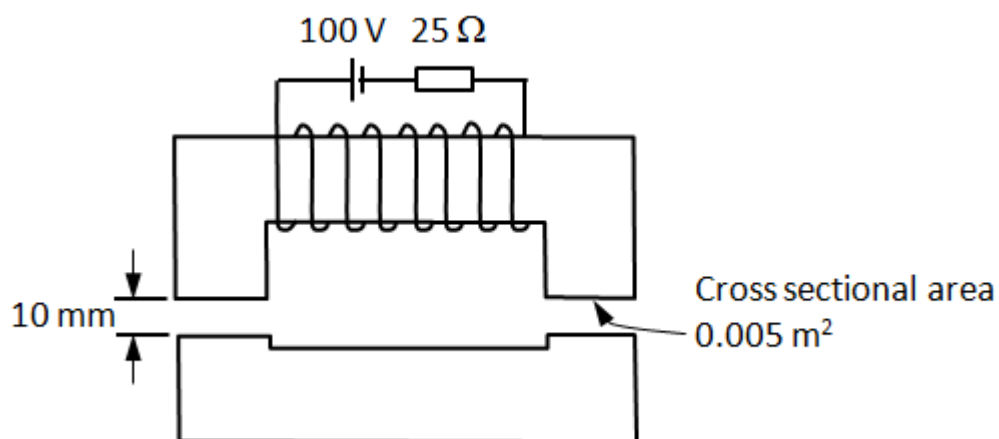

Fig. Q.8(a)
8. The lifting electromagnet magnet shown in Fig. Q.8(a) has 800 turns of wire with a resistance of 25Ω and is fed from a 100 V dc supply. The iron core is in two parts which can be separated (leaving an air gap); the upper part of the electromagnet is attached to a crane and the lower part is attached to the item the crane is intended to lift. The cross-sectional area of the core is assumed to be constant at 0.005 m^2 ; each pole face also has this area.